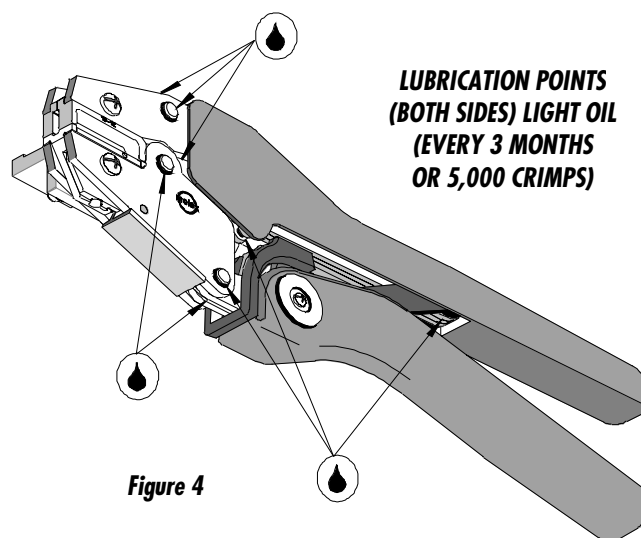

Figure 4
3. Make certain all pins; pivot points and bearing surfaces are protected with a thin coat of high quality machine oil. Do not oil excessively. The 64001-5100 (RHT-2264) was engineered for durability, but like any fine piece of equipment it needs cleaning and lubrication for a maximum service life of trouble-free crimping. A light oil, such as 30 weight automotive oil used at the oil points shown in Figure 4, every 5,000 crimps or 3 months will significantly enhance the tool life and ensure a stable calibration.